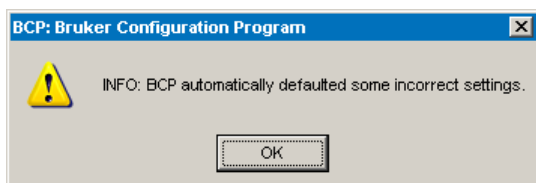

Figure 1.4 — Alert: BCP automatically defaulted some incorrect settings
5. Under Axes, click **Aux3**, **Aux4**, **Aux5**, **Aux6**, and **Aux7**. Each time, BCP will display the “Automatically defaulted incorrect settings” alert (Figure 1.4). Click **OK**.